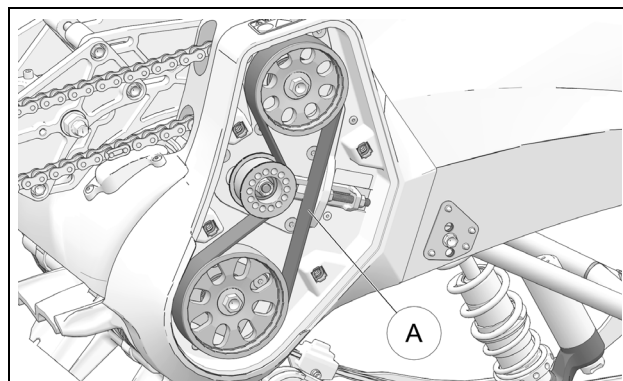

Figure 56
Check the general condition of the Syncro Drive belt (A). If you notice cracks or missing teeth, if cord is showing or there is abnormal wear, replace the belt. Figure 56.